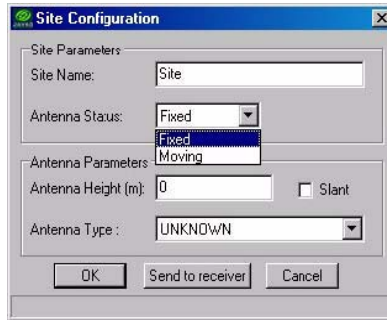

Figure 2-11. Site Configuration Dialog Box
6. Click the **Site parameters** button. The **Site Configuration** dialog box will appear (Figure 2-11).